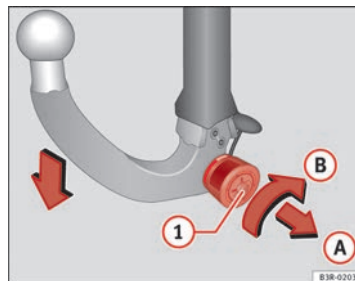

Fig. 159 Removable towing bracket: Removing the ball joint
- Insert the key in the lock ① ⇒ **fig. 159** on the knob.